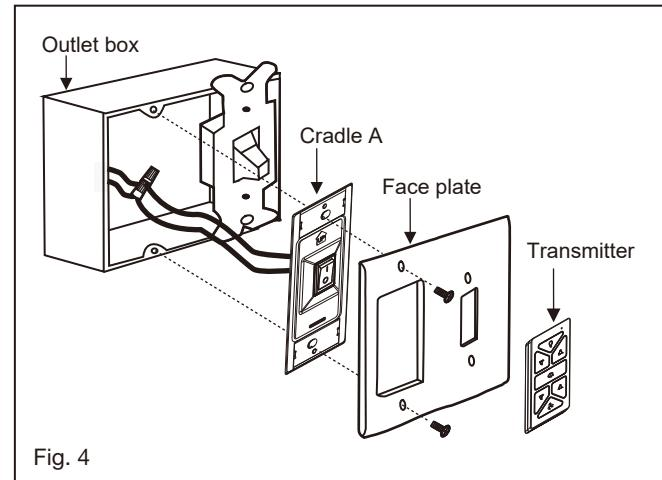

Fig. 4
- 2 Connect the black lead wires from the switch in the cradle A to the black wires in the switch box. Hot input wire to one of the cradle switch leads. Power lead to the fan is connected to the remaining switch lead. (Fig. 4)
An UPWARD airflow moves warmer air off the ceiling area as shown in Figure 4. This allows you to set your heating unit on a cooler setting without affecting your comfort.